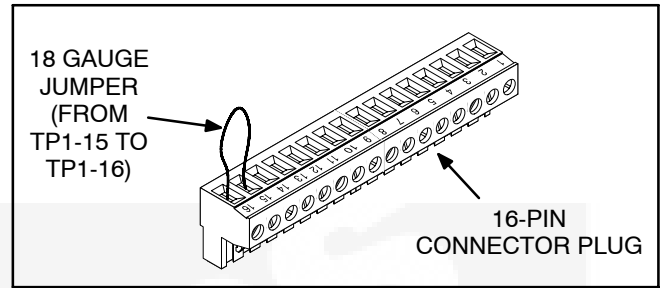
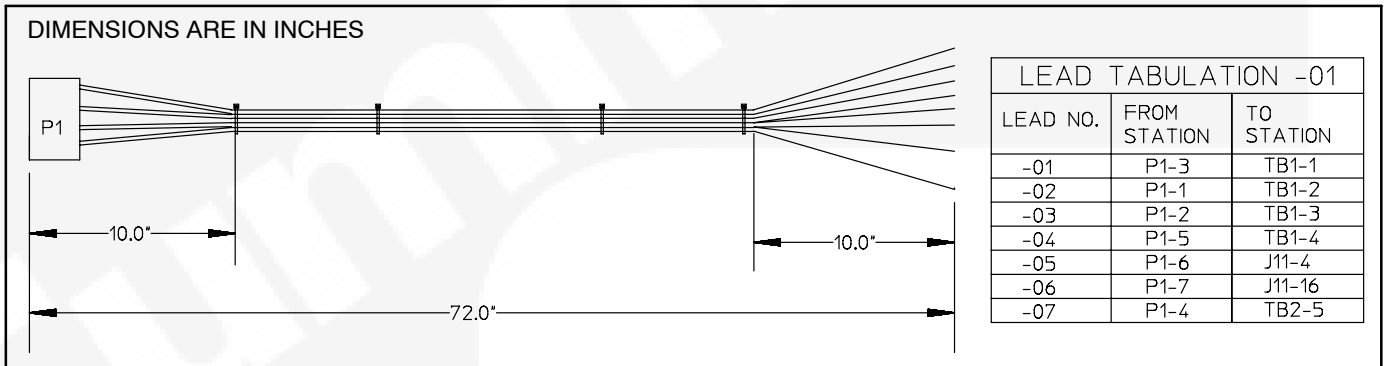

FIGURE 3-17. TP1 CONNECTOR
FIGURE 3-18. OPERATOR PANEL HARNESS
- b. Install the operator panel harness wires listed for TB1 in Figure 3-18 to the TP1 connector included with this kit (see Figure 3-17).